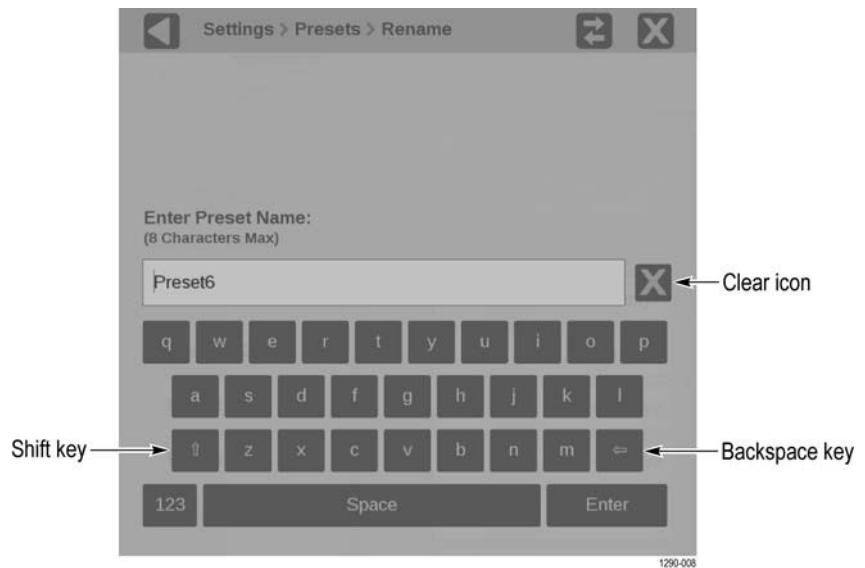

Figure 73: Editing a Preset name
- e. Select the preset name box you want to change to open the editing display shown in Figure 73.